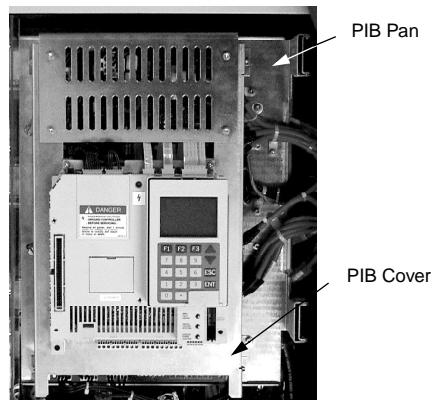

Figure 4.2.6: PIB Cover
6. Using a hex key, loosen the four screws securing the PIB cover to the PIB pan (See Figure 4.2.6 on page 4.2.13) and remove the cover to access the power board. As you are removing the PIB cover, carefully pull the three flex cables through.
3. Using a hex key wrench, loosen the four screws securing the PIB cover to the PIB pan and remove the cover. See Figure 4.2.6. As the control basket is removed, pull the three ribbon cables out of the guide on the back of the basket.